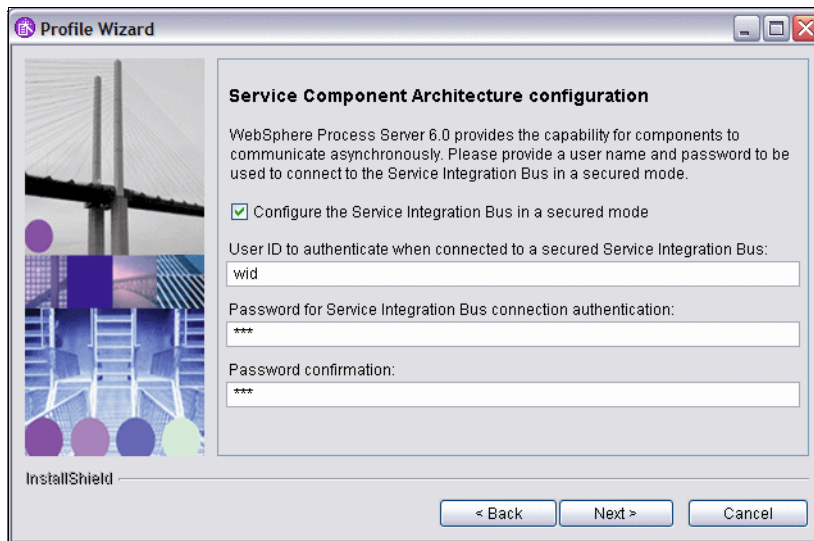

Figure A-23 WebSphere Process Server: Service Component Architecture configuration
- ▶ For Service Component Architecture, select *Configure the Service Integration Bus in a secured mode* (Figure A-23).